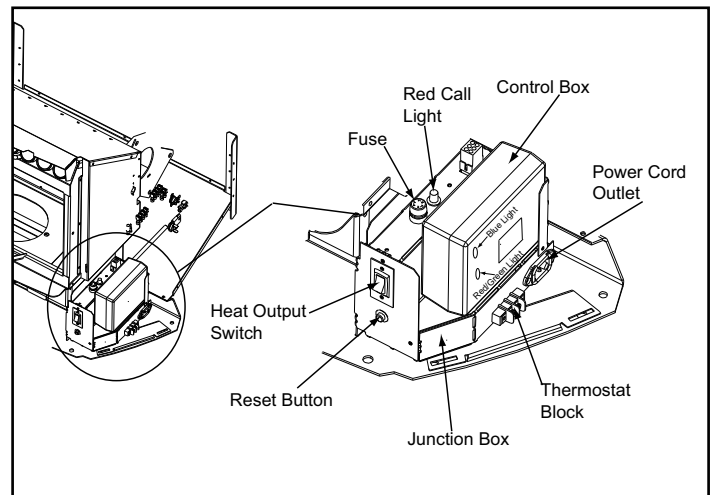

Figure 23.1
3. Locate the heat output control switch behind the right face on the lower right side of the firebox. Set to the HIGH setting and then adjust the thermostat to its highest setting. The red call light will be on which is located on the top of the junction box behind the right cast side. This indicates the thermostat is calling for heat. **Figure 23.1.**